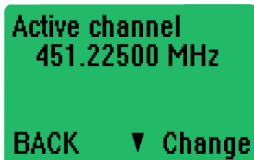

Figure 65: Active Channel
1. Press the *Select* soft key to select RF frequency from the main menu (see Figure 64). The frequency of the active channel is displayed (see Figure 65).